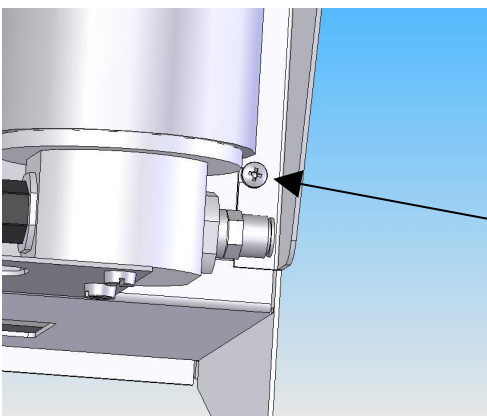

Fig. 5
- Now hook in the add-on tank onto the screw. Please take special care to see that on all three of the hook-in drillings the screw heads are flush. The “wing” of the tank retaining plate must be pushed underneath the screw which is inserted in a sideways position. **Figure 5**